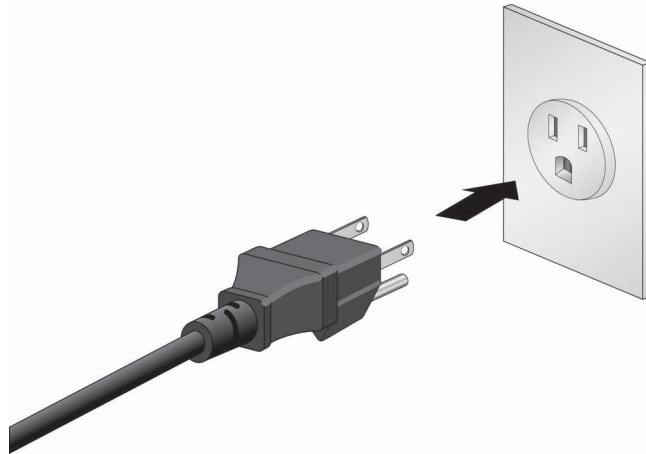

Figure 58. Connecting the Power Cord to an AC Power Source
4. Plug the other end of the power cord into an appropriate power source. Refer to Figure 58. For power requirements, refer to “Power Specifications” on page 137.